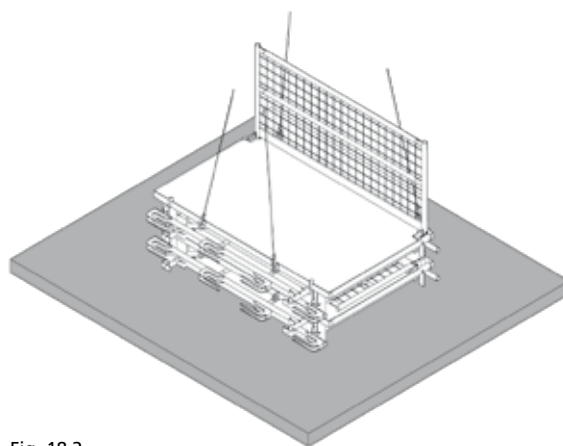

Fig. 18.2
3. Attach 4 crane slings to the crane eyes of the platform, running the 2 snap-hooks at the rear through the mesh of the railing (Fig. 18.2).